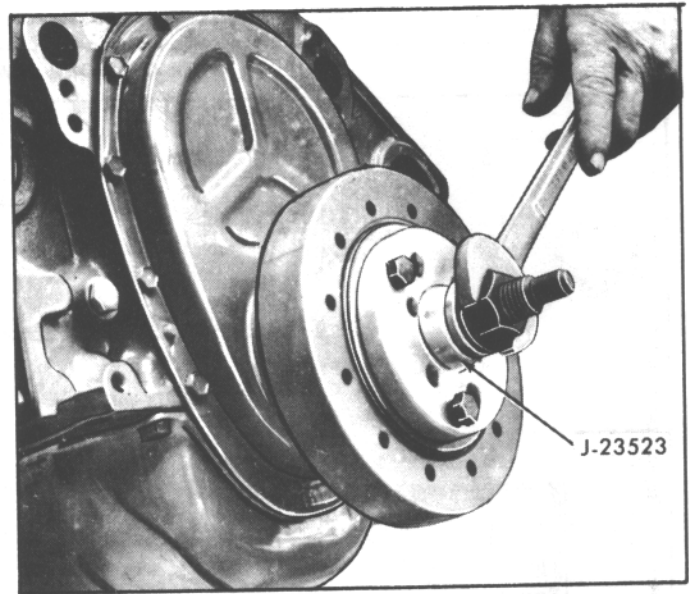

Fig. 124. Installing Torsional Damper (Pull on Type)
- (c) Using tool J-23523, pull damper onto crankshaft (Fig. 124).